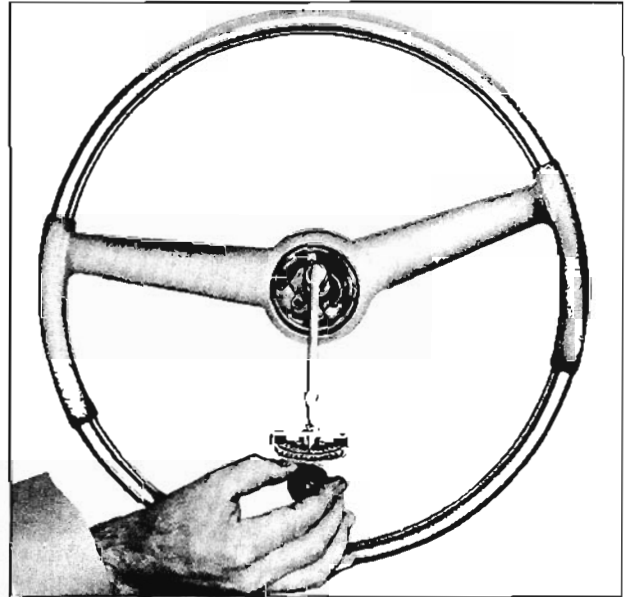

Fig. 8-39 Checking Worm Bearing Pre-load
5. Check the combined ball and thrust bearing pre-load with an inch-pound torque wrench on the steering shaft nut by rotating through the center of travel. (Fig. 8-39) Note the highest reading.